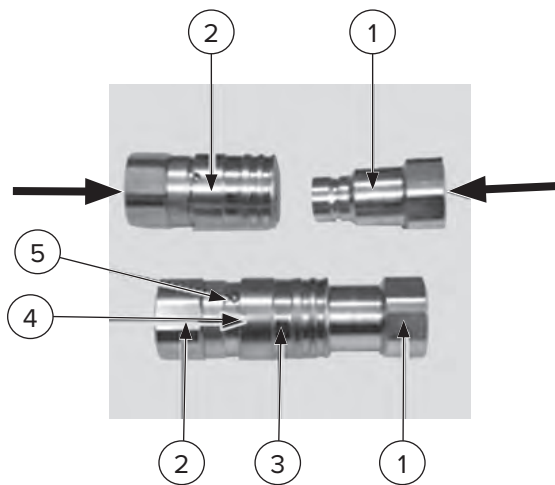

Figure 5
1. Push the male section [Figure 5, Item 1] into the female section [Item 2] until it clicks into place in the ring nut [Item 3].
NOTE: Figure 5 shows flat-faced quick couplers with a snap-fastening safety ring nut.
4. To disconnect the hoses with the flat-faced quick couplers: turn the ring nut [Figure 5, Item 3], so that the notch [Item 4] lines up with the spherule [Item 5], push the ring nut [Item 3] towards the spherule [Item 5] to disconnect the quick coupling.